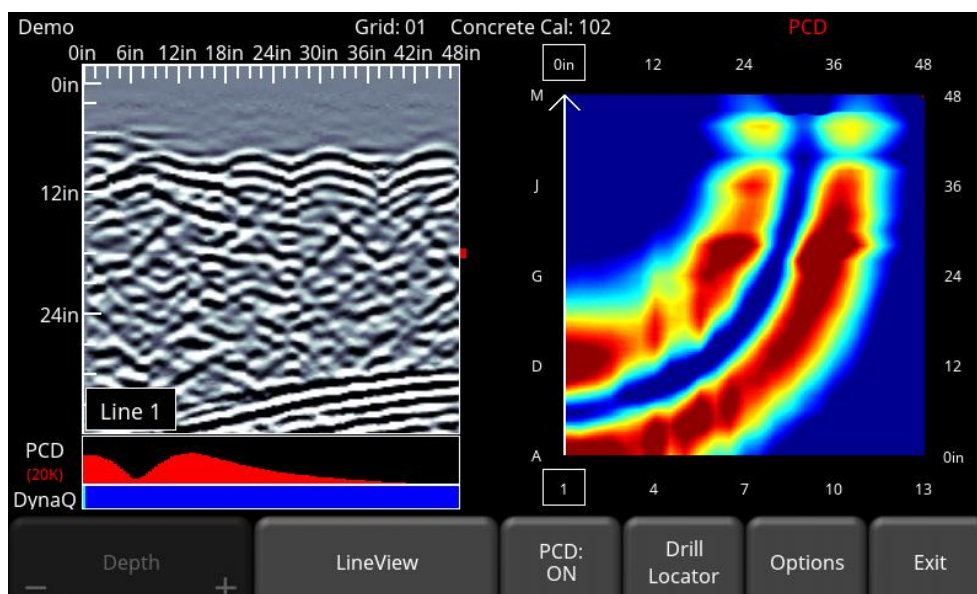

Figure 8-4: Screen image after switching from depth slice view to PCD view
- **PCD** – pressing this button toggles between the PCD image and the depth slice images (Figure 8-4). Note that when viewing the PCD image, the depth +/- button is greyed out, because the PCD image is a single image of the magnetic field at the surface (The principles of PCD are explained in Section 2.6).